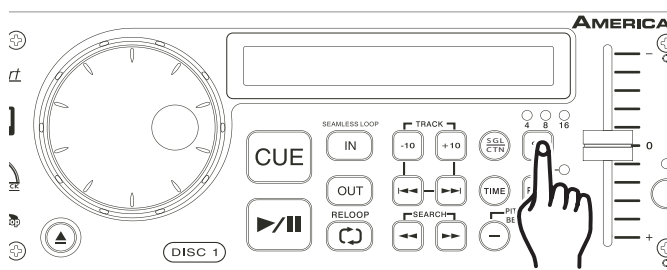

Figure 10
You may choose a pitch operating range at any time. To change the operating range be sure the pitch function is turned on, see figure 10. The pitch percentage can be changed between +/-4%, +/-8%, and +/-16%. 4% will allow the least amount of pitch manipulation and 16% will allow the most amount of pitch manipulation. To adjust the different values, press the PITCH ON/OFF BUTTON (12) and Tap on the % BUTTON (7) until your desired value is reached. The L.E.D. of the % BUTTON (7); glowing yellow for 4%, glowing green for 8%, or glowing red for 16%.